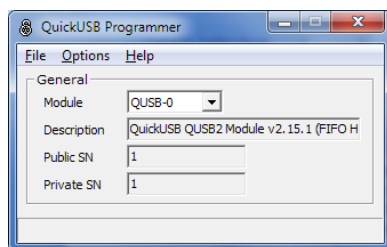

Figure 2 – QuickUSB Programmer
3. The programming process should take only a few seconds and its progress is indicated with a progress bar near the status bar. After the firmware has been updated, you will be prompted to disconnect and reconnect the QuickUSB Module from the USB cable to load the firmware. If you have external power connected to the QuickUSB Evaluation Board, please remove it as well (See Figure 2).